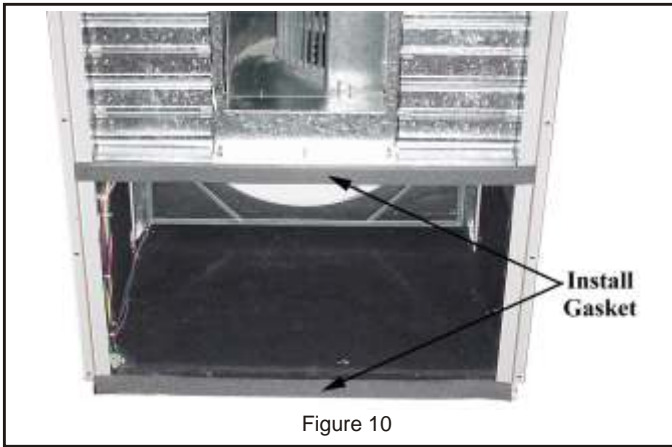

Figure 10
2. Apply 3/4" x 1 1/4" gasket to top and bottom decks of ERS as shown in the figure. **See Figure 10.**